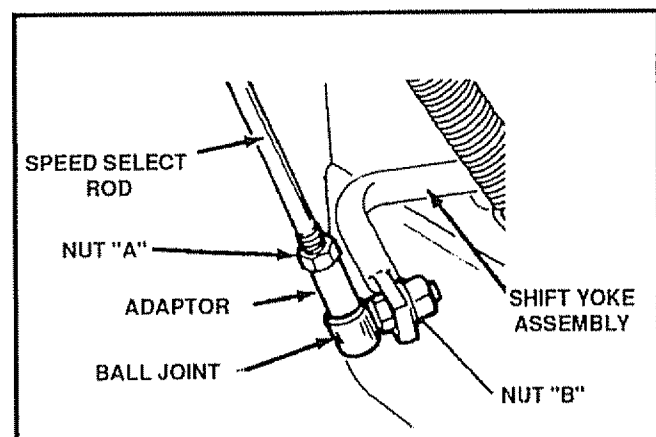

FIG. 33
- Loosen nut "A" on the speed select rod. Remove the ball joint by removing nut "B" from the shift yoke assembly. Lengthen or shorten the rod by turning the adaptor to obtain the correct friction wheel position (See Fig. 33).
- Remove ball joint from shift yoke assembly (See Fig. 33, page 21).